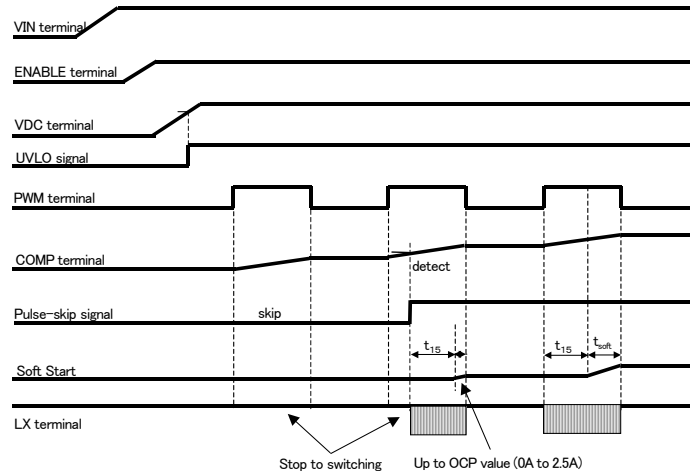

Figure 41. Soft Start
- Regulator (VDC) is operated after ENABLE=H. Inner circuit is operated after releasing UVLO. When boosting after releasing UVLO, soft start function is operated. Soft start circuit needs t_{15} (more than $5\mu s$) such as Figure 41. Soft start is operated during t_{soft} time. Set PWM width "H" until soft start finishes.